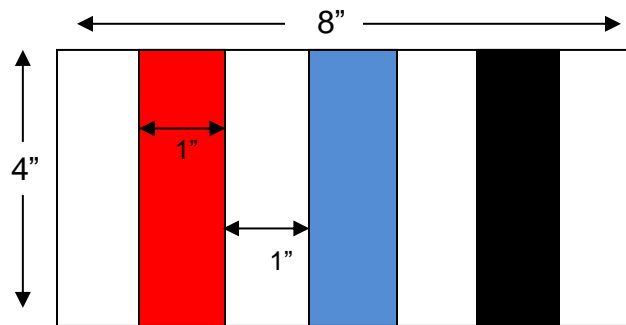

Figure 1
- 4.2 Mark one test panel with the acrylic paint. Include one line of each color. Make lines approximately one inch wide and at least one inch apart (**Figure 1**).